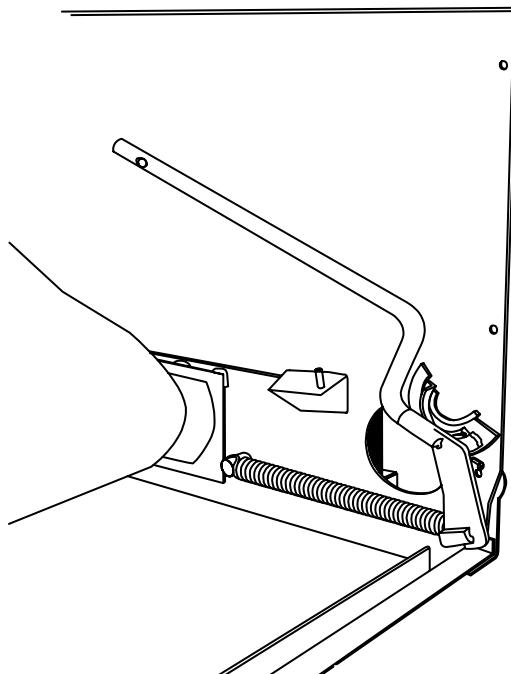

Figure 4.2-35
- a. Place the carpet tool flag (792-502-002) onto the bearing support assembly (see Figure 4.2-35).
- a. Place the flag on the carpet installing tool, and hook the tool on the bearing support assembly as shown in Figure 4.2-35.